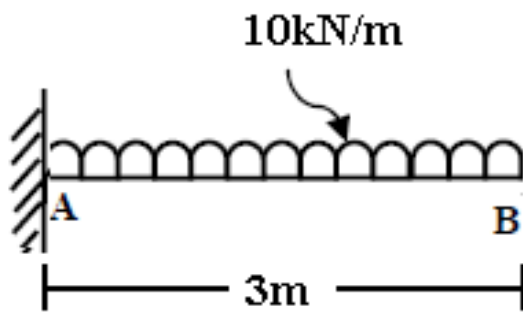

Figure 3
- (c) Draw Shear force and Bending moment diagrams for a beam loaded as shown in figure 3. 07